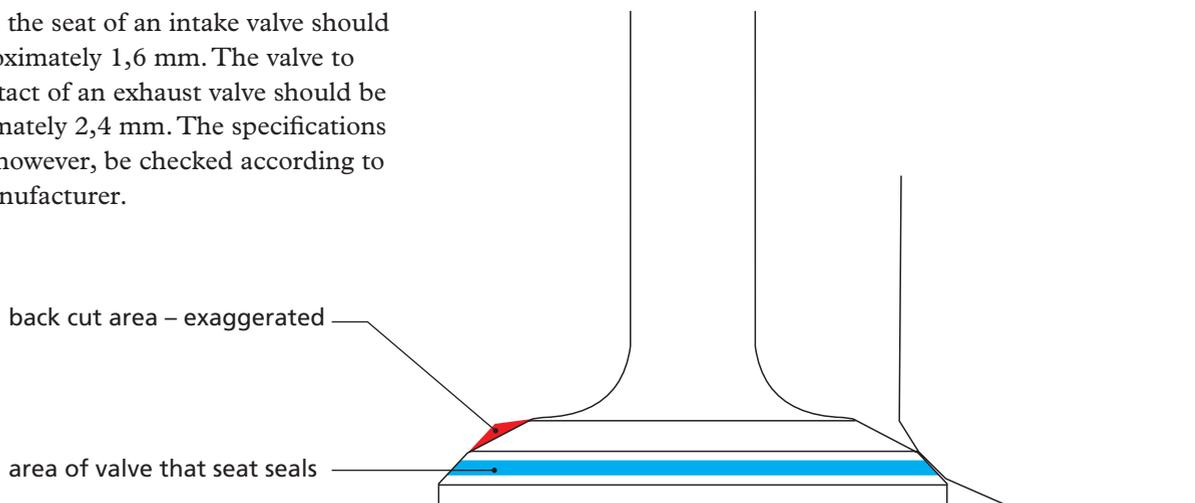

Figure 1.19 Checking the valve to seat contact
**Valve seats and valve faces** should be checked for burning, pitting, and wear from opening and closing. To test if a valve is seated correctly and seals effectively, the cylinder head can be turned upside down. Pour paraffin onto the valves to check if any paraffin leaks into the intake or exhaust ports. The valve to seat contact should also be checked, as illustrated in Figure 1.19.